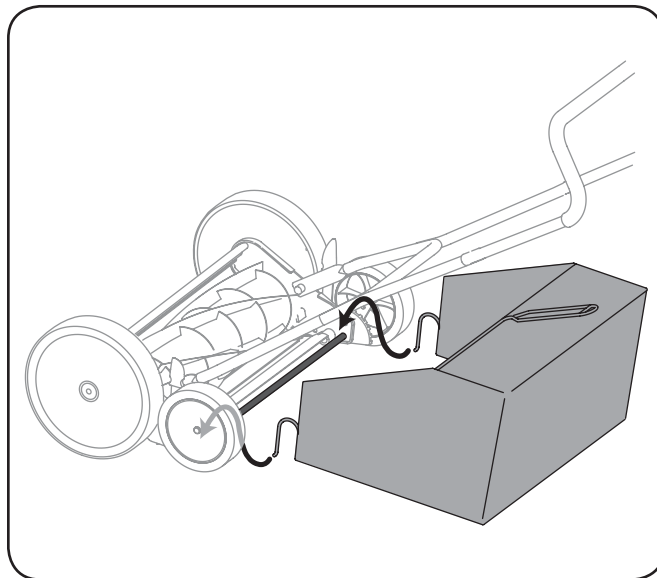

**Figure 3-4**
1. Move the right-hand height adjustment lever outward and then position it forward (to lower the cutting height) or rearward (to raise the cutting height) before releasing it into the notch for your desired height. See Fig. 3-4.